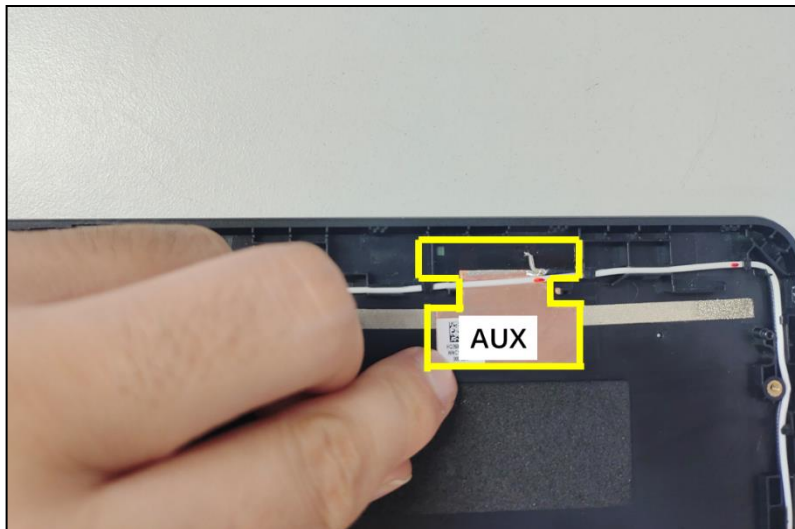

Figure 3-64. WLAN Antenna Removal
3. Gently peel off the AUX antenna and its grounding foil (Figure 3-64). Then remove the AUX antenna from the LCD cover.